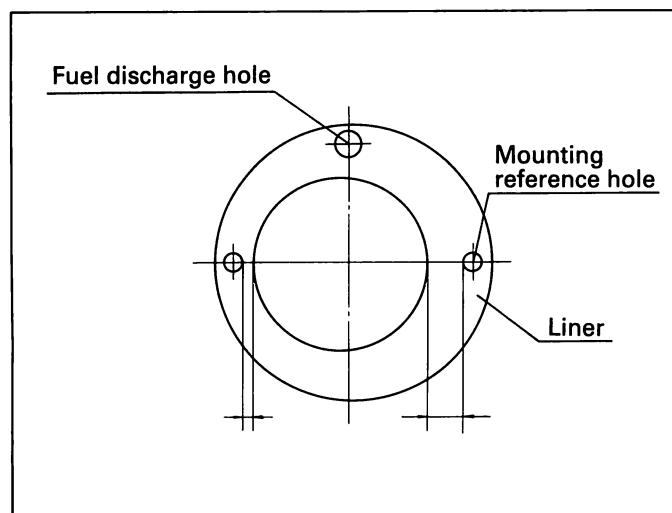

Fig. 37 Feed pump placement
3. If the injection pump rotates in a clockwise direction (R), the feed pump is installed in the pump housing so that the reference hole is on the right-hand side when the feed pump is viewed from the drive side. Conversely, if the injection pump rotates in a counterclockwise direction (L), the feed pump is installed so that the reference hole is on the left-hand side. (Figs. 37 and 38)